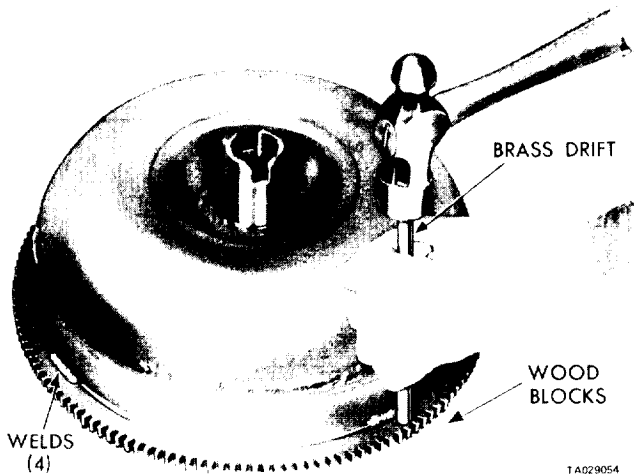

Figure 18-1. Removing Starter Ring Gear.
(1) Cut through the weld material at the rear of the ring gear with a hack saw or grinding wheel (figure 18-1). Be careful not to cut or grind into the front cover stamping.
(2) Scribe a heavy line on the front cover next to the front face of the ring gear to aid in locating the new gear.
(3) Support the converter with the front lug faces resting on blocks of wood. The converter must not rest on the front cover hub during this operation. Using a blunt chisel or drift and hammer, tap down on the ring gear near the welded areas to break any remaining weld material (figure 18-1). Tap around the ring gear until it comes off the converter.
(4) Smooth off the welded areas on the cover with a file.